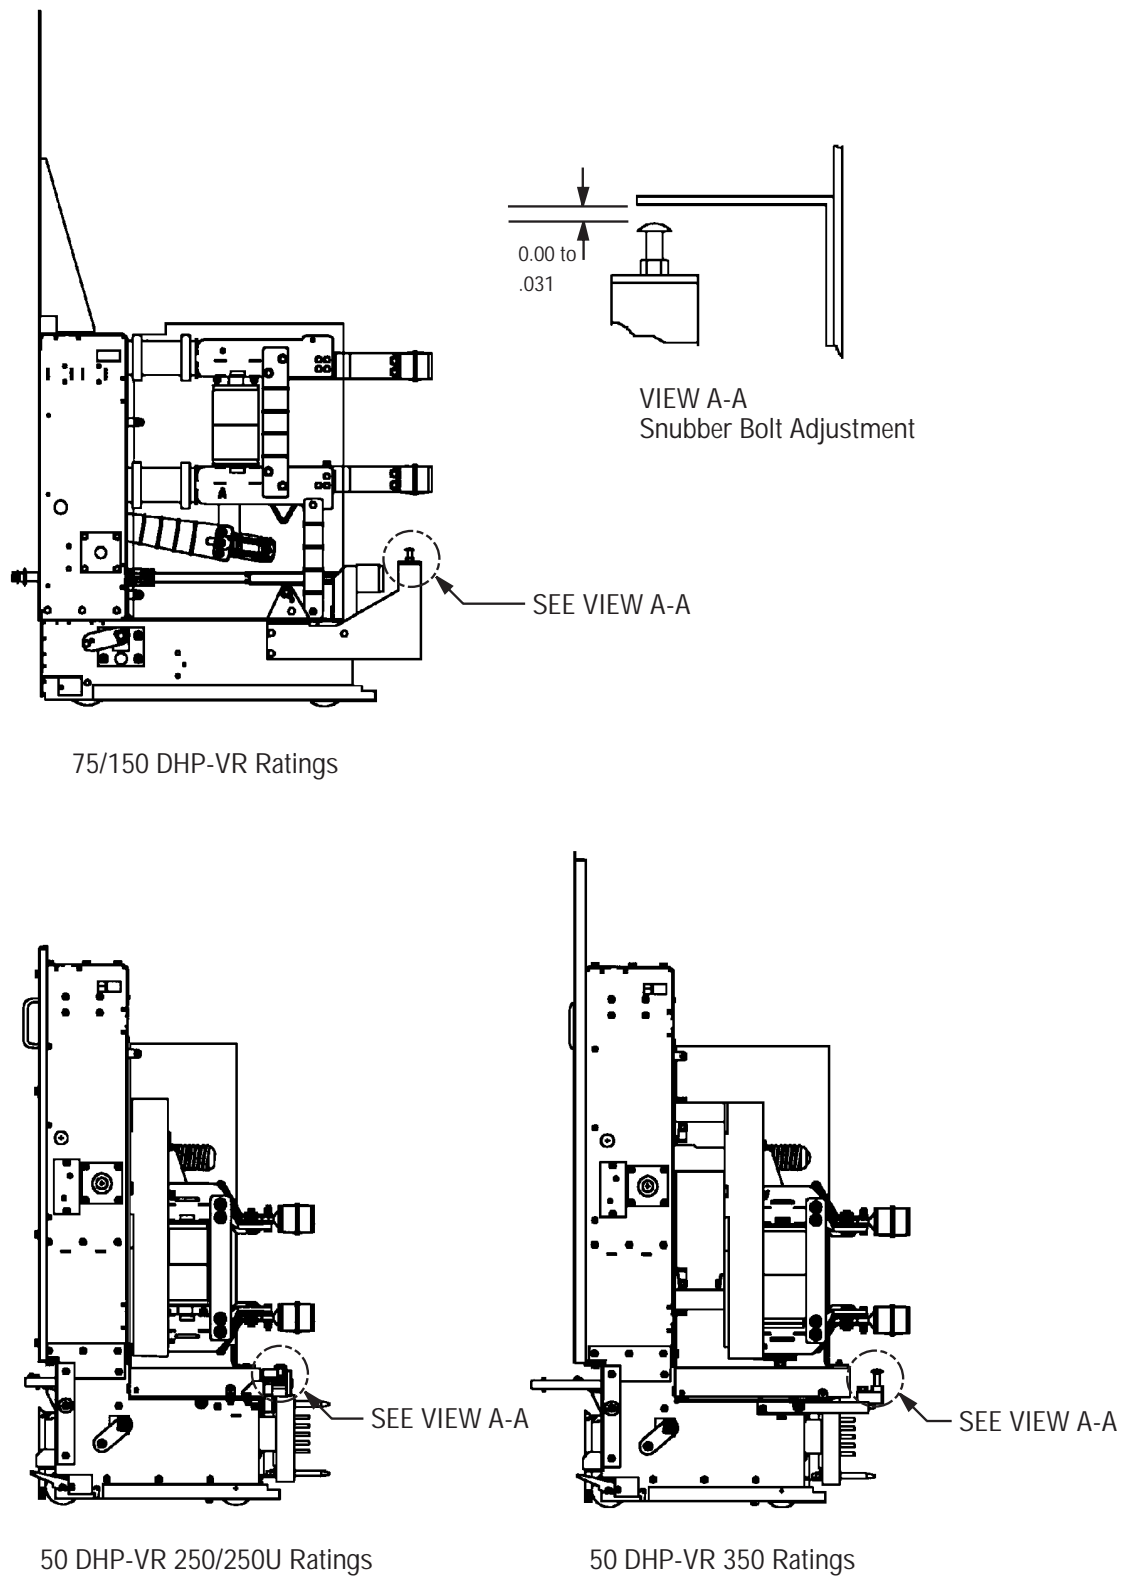

Figure 4-8 Snubber Adjustment
Step 1: Measure the distance from the floor plate to the underside of the current transformer shelf on both sides of the housing in line with the location of the snubber bolts on each side of the breaker (Figure 4-8).